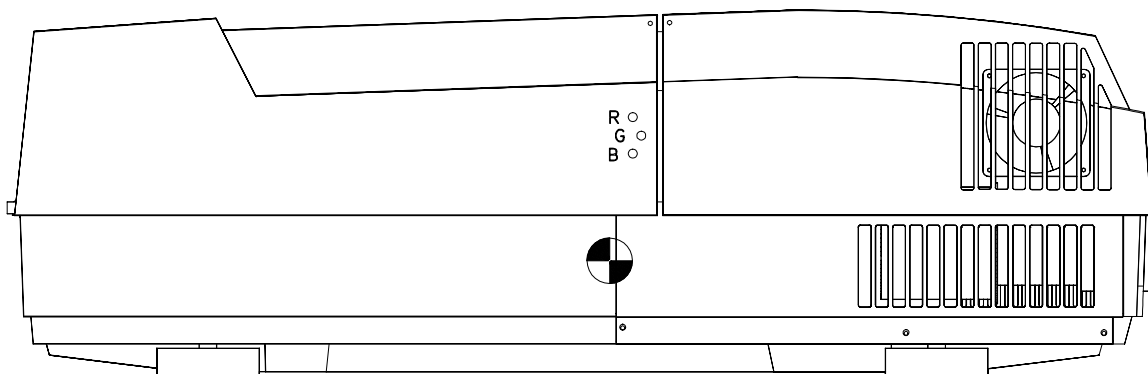

Figure 3-11. RGB Electronic Focus adjustments.
4. Adjust the Green Electronic Focus (Figure 3-11) for a sharp focus of the H pattern at the center of the screen.